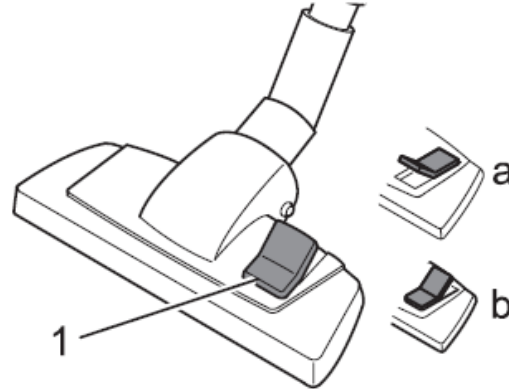

Fig.12
4. Set the nozzle switch to “carpet” or “hard floor” according to the floor (fig. 12/1 above) to be cleaned:
- Hard floor (Fig. 12/A) Laminate, tiles, Hardwood, etc,
- Carpet (Fig. 12/B) Short- and deep-pile carpets, rugs, etc.